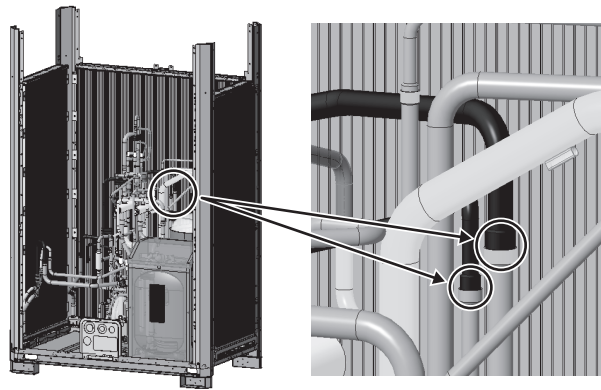

Fig. 100 Brazing point of the rear heat exchanger piping
- (1) Remove the brazing from the piping. (Two areas to remove brazing: Fig. 100)